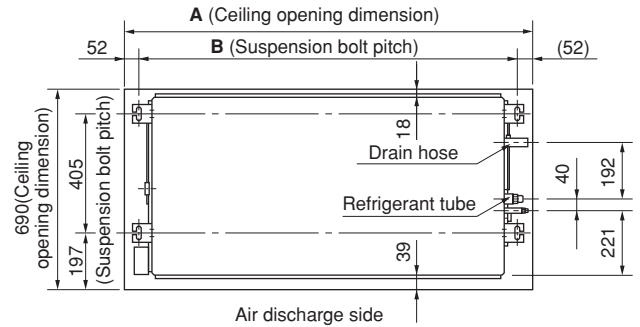

Fig. 3-2
- (2) Follow the diagrams to make the holes in the ceiling. (Figs. 3-2 and 3-3)
- (4) Cut the ceiling material, if necessary. (Figs. 3-2 and 3-3)